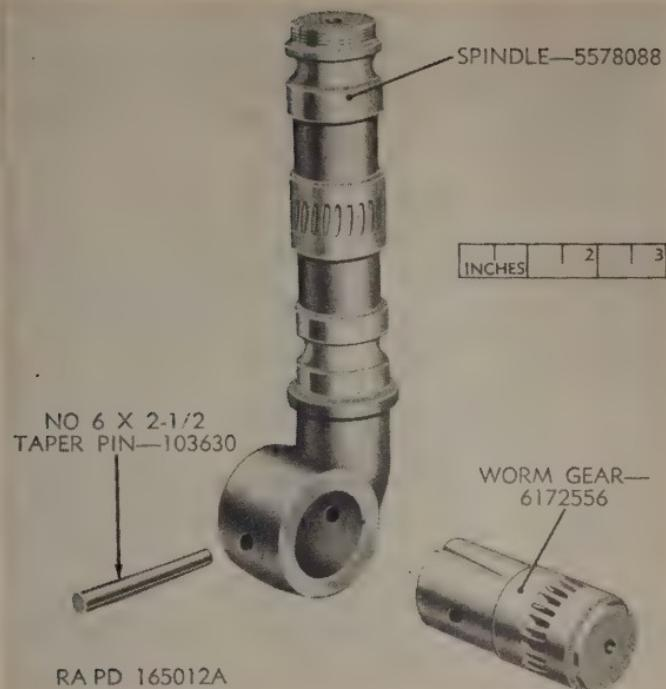

Figure 38. Telescope mount M28—spindle assembly—exploded view.
76. Disassembly of the Spindle Assembly (fig. 38)
(fig. 38)